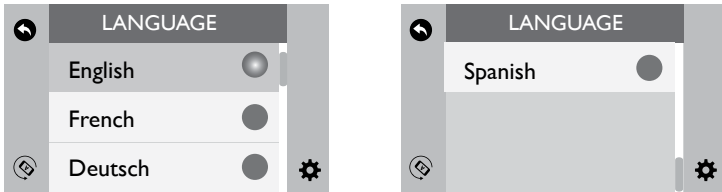

Figure 12.9c
1. There are 4 languages to select from: English, French, Deutsch, and Spanish. To view the selections, use the scroll wheel to move up and down. To select a language, tap ● next to the language you want to display, Figure 12.9c.